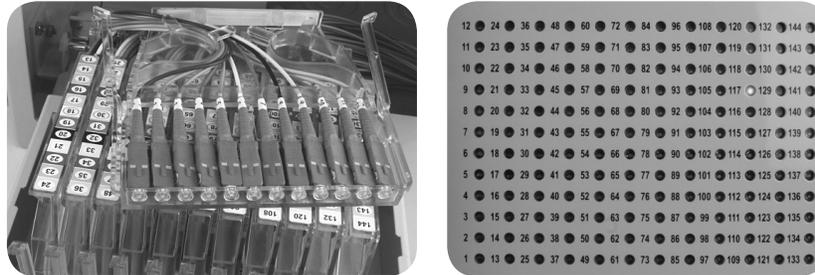

Figure 19
2. Using local engineering practices, determine the appropriate distribution fiber to be connected. Remove the corresponding fiber storage cartridge from the swing down tray by pushing in and pulling up on the cartridge arms. **(Figure 19)**
**\* Note: The cartridges and distribution fibers are numbered to assist in fiber identification. Additionally, distribution fibers may be identified by placing a red light on the customer side of the fiber and locating the fiber on the swing down tray. (Figure 19)**